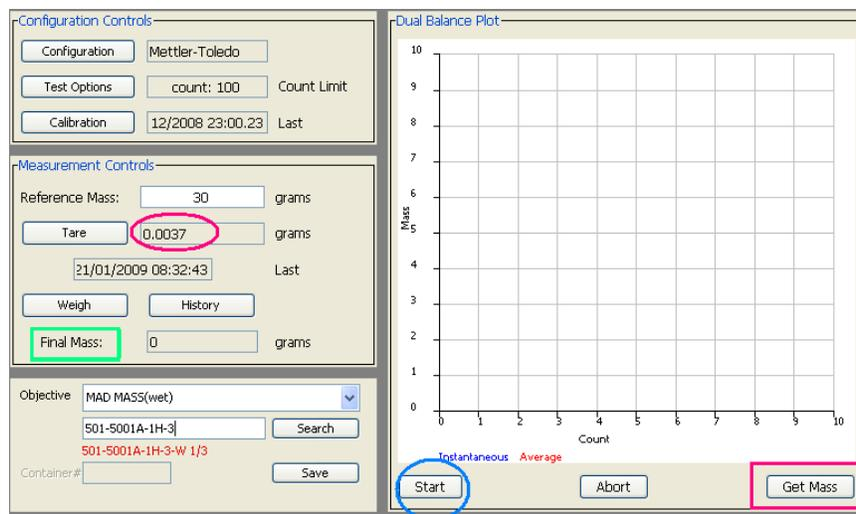

Figure 8. Measurement Controls and Dual Balance Plot Area, Mettler-Toledo Main Screen.
- Click the **Tare** button in the *Measurement Controls* area of the balance software main screen (**Figure 8**).